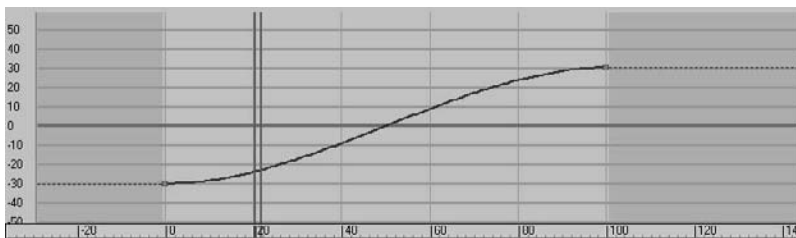

Figure 8.37
5. Select the Parameter Curves Out-of-Range Types button (  ), and select Constant. This will remove the *Loop* from the X Position Track but won't affect the Z Position track for the ball's bounce (Figure 8.37). Press N to deactivate Auto Key. Play the animation. You can use the / button (slash) as a shortcut for play animation.
- There is still a little problem. Watch the horizontal movement. The ball is slow at the beginning, speeds up in the middle, and then slows again at the end. It eases in and eases out, as you can see in the curve in Figure 8.37. This is caused by the default tangent, which automatically adds a slowdown as the object goes in and out of the keyframe. In the Curve Editor, select both keys for the X Position and click on the Linear Tangent (  ) to create a straight line of movement so there is no speed change in the ball's movement left to right.